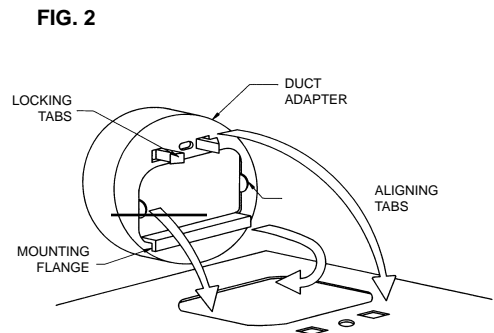

FIG. 2
1. Attach duct adapter onto housing. Press firmly to lock in place. See Fig. 2. Insure that damper opens and closes freely. The attachment of the duct may be reinforced by installing a #8AB screw through the obround hole in the duct adapter and the small hole in the housing.